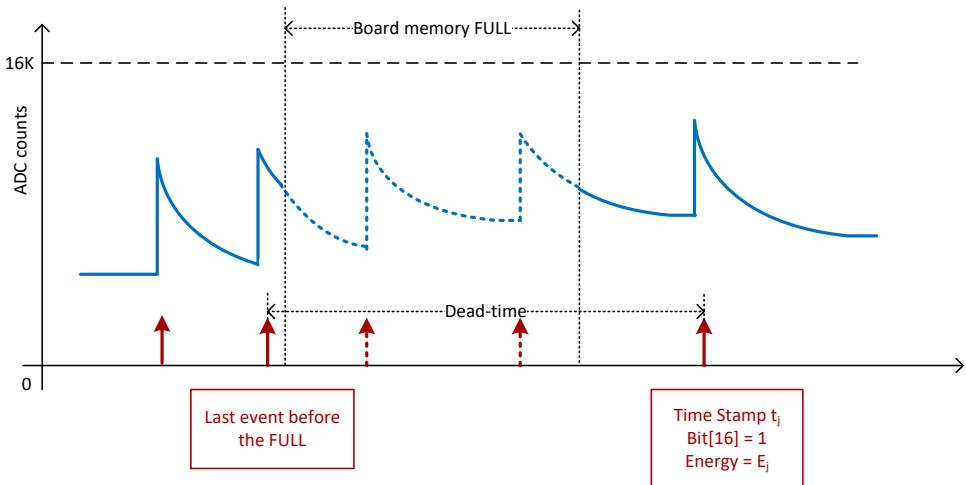

Fig. B.8: Dead-time in case of FULL memory status. Events in the FULL are identified but not saved.
bit[4] = INPUT SATURATION: identifies where an event saturated the input dynamics. The event that saturates the dynamics has Energy = 0xFFFF, while the PU flag is set to 1 only if there is also a pile-up. See **Fig. B.8**.
4. DEAD_TIME in case of FULL board memory (see **Fig. B.8**). When the memory of the board is full (which is usually due to a write event), the board is not able any more to transfer the event data. When the board is ready again, the first event after the FULL will have the bit[16] set to 1, and the energy value as read from the algorithm. The dead-time is equal to the time difference between the last trigger occurred and the trigger after the FULL status.